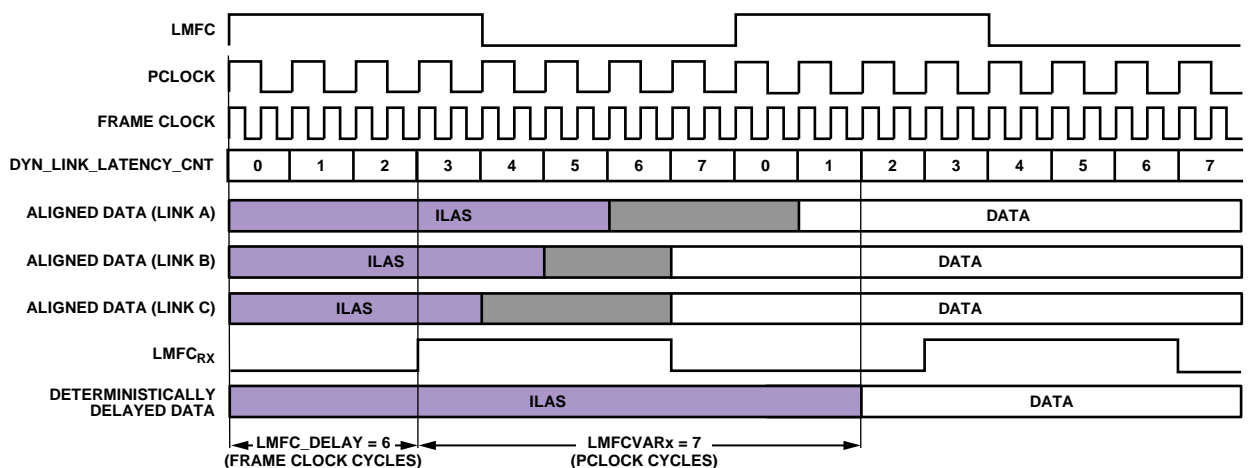

Figure 56. Multilink Synchronization Settings, Derived Method Example
Figure 56 shows how DYN\_LINK\_LATENCY\_x (Register 0x302 and Register 0x303) provides a readback showing the delay (in PClock cycles) between LMFCRX and the transition from ILAS to the first data sample. By repeatedly power-cycling and taking this measurement, the minimum and maximum delays across power cycles can be determined and used to calculate LMFCVar and LMFCDel.
The example shown in Figure 56 is demonstrated in the following steps according to the procedure outlined in the Without Known Delays section. Note that this example is in Subclass 1 to achieve deterministic latency, which has a PClockFactor (FrameClockRate/ PClkRate) of 2 and uses K = 16; therefore PClocksPerMF = 8.
1. In Figure 56, for Link A, Link B, and Link C, the system containing the AD9154 (including the transmitter) is power cycled and configured 20 times. The AD9154 is configured as described in the Device Setup Guide section. As the point of this exercise is to determine LMFCDel and LMFCVar, the LMFCDel is programmed to 0 and the DYN\_LINK\_LATENCY\_x is read from Register 0x302 and Register 0x303 for Link 0 and Link 1, respectively. The
variation in the link latency over the 20 runs is shown in Figure 56 in gray.